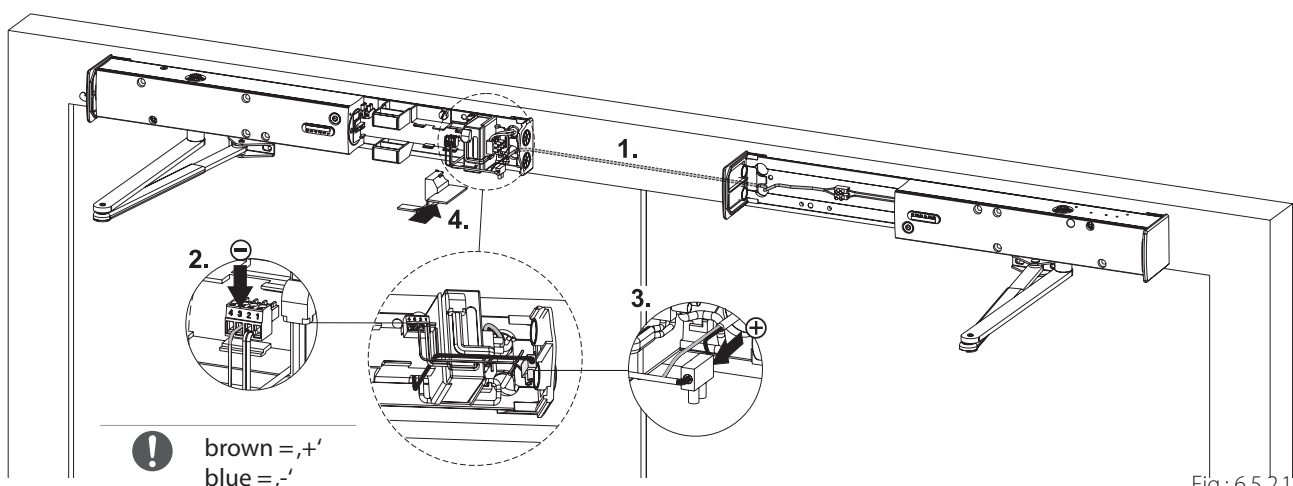

Fig.: 6.5.2.1
- through door frames and existing cable openings (B) at frames and closer if flush mounting is indicated
- ▶ Connect Cable to PIN 3 (2.) und Luster terminal (3.) according to fig. 6.5.2.1.